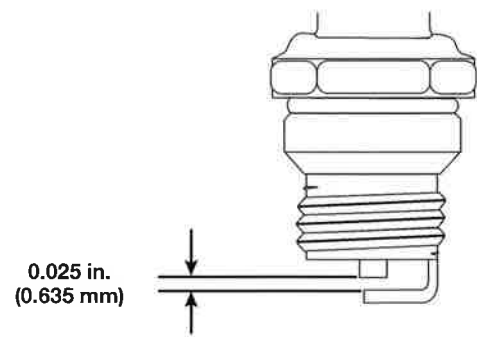

Fig. 26
4. Use a feeler gauge to set the air gap at **0.025 in. (0.635 mm)** (Fig. 26).